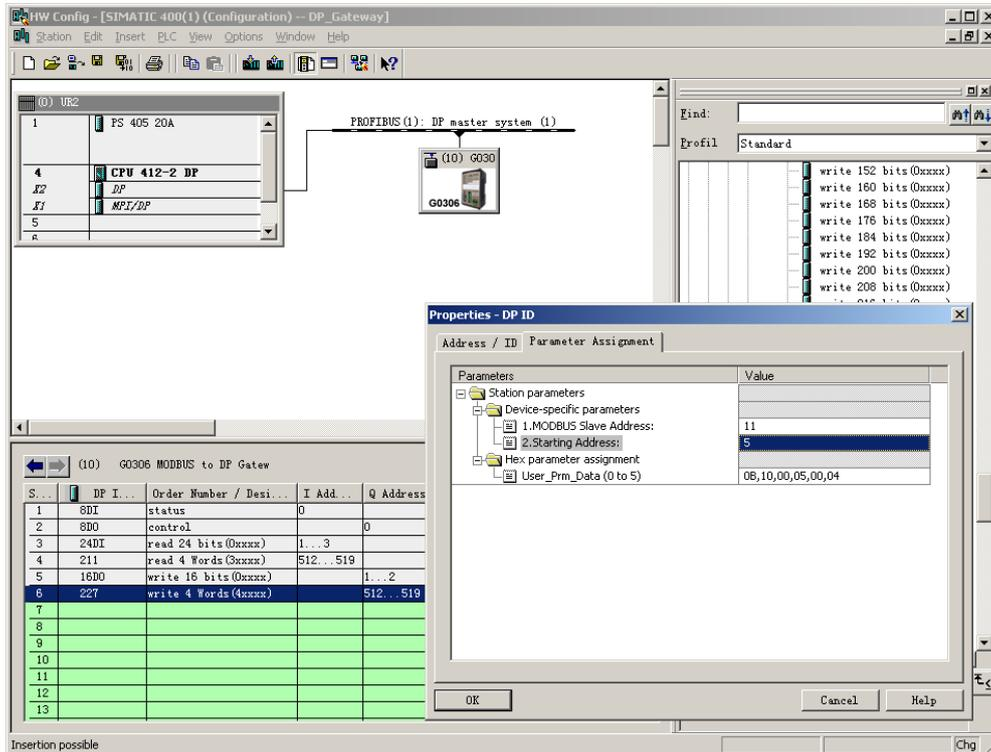

Figure 26 Configure User Parameters of “write 4 Words(4xxxx)” Module
**b) Configure user parameters of “write 4 Words(4xxxx)” module, shown in Figure 26:**
"1.MODBUS Slave Address: "⇒Type MODBUS slave address 11, shown in Figure 26.
"2.Starting Address:" ⇒Type starting address 00006 of register 0xxxx to be written, set address as 5⇒"OK", shown in Figure 26.